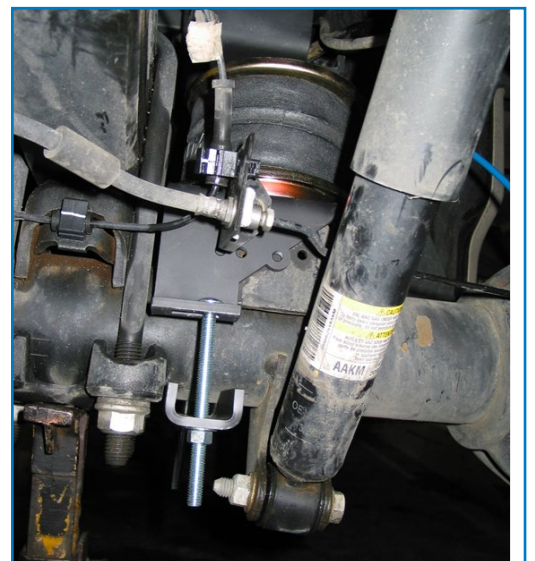

Figure 2D
- 10** Remove the hex cap screw (**Figure 2D**) retaining the emergency brake cable to the jounce bumper stop on the passenger side of the vehicle. Discard the screw.